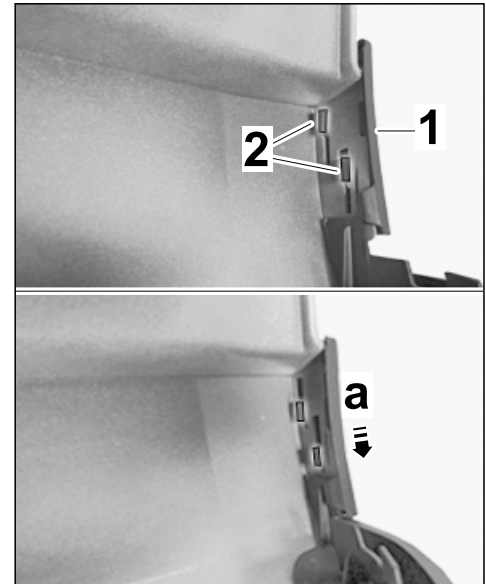

Figure 43
- 8.3.3 Install retaining lugs ⇒ *Figure 43*
and press downwards ⇒ *Figure 43*